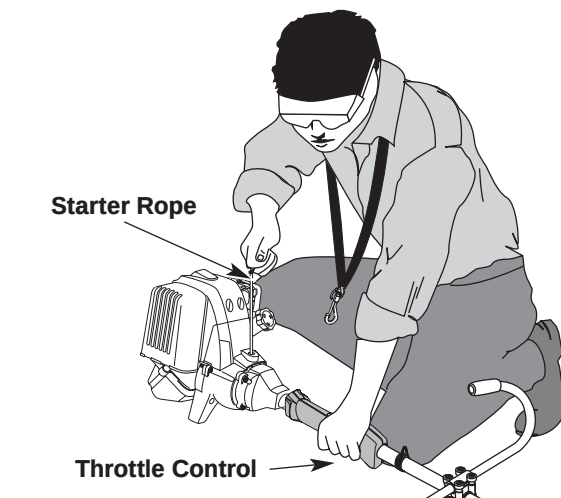

Fig. 22
6. Squeeze the throttle lock-out, then squeeze the throttle control to the wide open (full throttle) position (Fig. 22).
7. With the unit in the starting position (Fig. 22) and the choke in the **FULL (A)** |←| position, pull the starter rope briskly 5 times. If the engine attempts to run before the fifth pull, proceed to step 8.
1. Release your hand from the throttle control (Fig. 22). Allow the engine to cool down by idling.